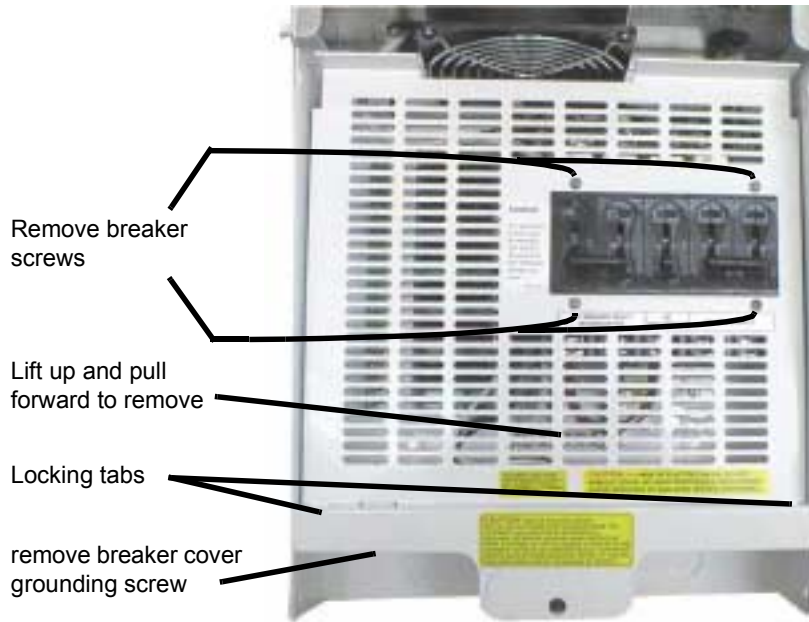

Figure 2-7 Inner breaker cover
7. Remove the internal breaker panel by removing the screws in the breakers and the breaker cover grounding screw. Lift the panel until the lower locking tabs are free, then gently pull the inner cover outward, as shown in Figure 2-7. Save the screws for reinstallation.